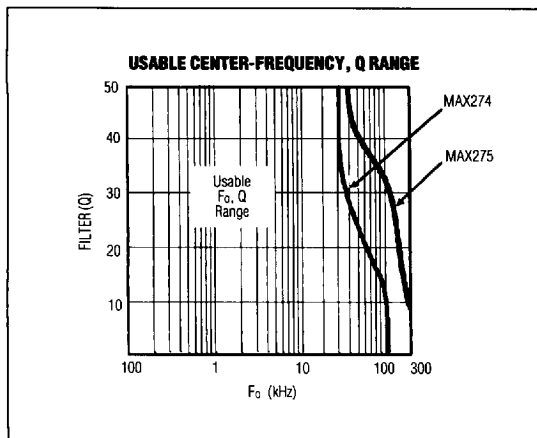

Figure 4. Usable  $F_o$ ,  $Q$  Range. See *Translating  $F_o/Q$  Pairs into Hardware (Resistor Selection)*.
**1. Check all  $F_o/Q$  pairs for realizability.** The MAX274/MAX275 have limits on which  $F_o/Q$  values can be implemented. These limits are bound by finite amplifier gain-bandwidth and amplifier load drive capability (which limit the highest frequency  $F_o$ /highest  $Q$ s) as well as amplifier noise pickup and susceptibility to errors caused by stray capacitance (which sets a low-frequency limit on the poles). Refer to Figure 4 to be sure each  $F_o/Q$  pair is within the "realizable" portion of the graph. If filter  $Q$ s are too high, reduce them by increasing the filter order (that is, increase the number of poles in the overall filter).
High-frequency  $F_o$ s (up to 400kHz) and high  $Q$ s outside of Figure 4's limits are also realizable, but  $F_o$  and  $Q$  will deviate significantly from the ideal. Adjust resistor values by prototyping.